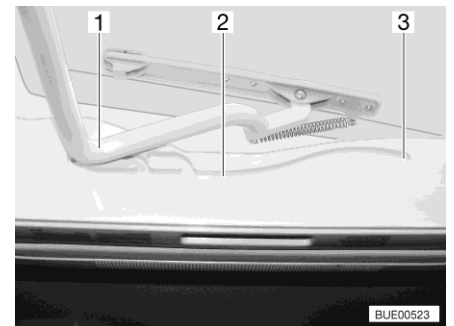

Fig. 32 Guide (Heki skylight)
- Pull the bar (Fig. 32,1) in the guides (Fig. 32,2) to the rearmost position (Fig. 32,3).
- Use both hands to push the bar (Fig. 32,1) slightly upwards.
- Pull the bar in the guides (Fig. 32,2) to the desired position.